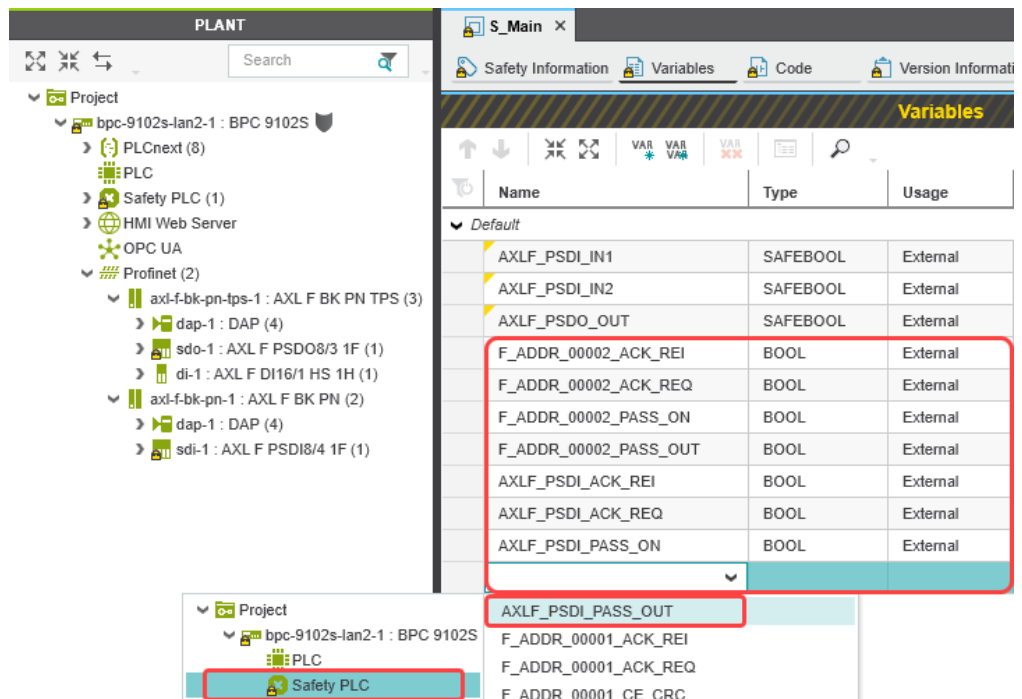

Figure 6-42 Selecting diagnostic/management variables
- Open the selection list by clicking on the arrow in the “Name” field (see Figure 6-42).
- Repeat this step for all the diagnostic/management variables and exchange variables shown in Figure 6-42.